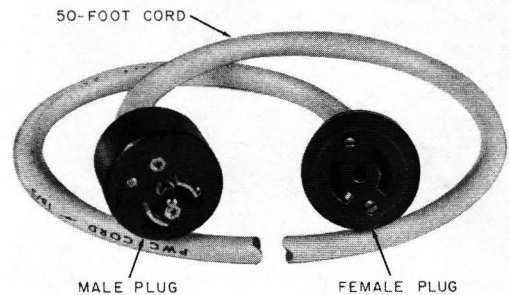

Fig. 5—B Weatherproof Cord
2.06 The B weatherproof cord (Fig. 5) is used to provide a telephone connection between the post-mounted jack at the service pad and the jack on the recreational vehicle in a trailer park or between the dock and boat in a marina. It consists of a 50-foot, 16-gauge, 3-wire (ring, tip, and ground) yellow PVC insulated flexible cord with PHONE stamped on the cord at 1-foot intervals for identification. The cord is
- One B weatherproof cord (for making connection between post and vehicle, Fig. 5)